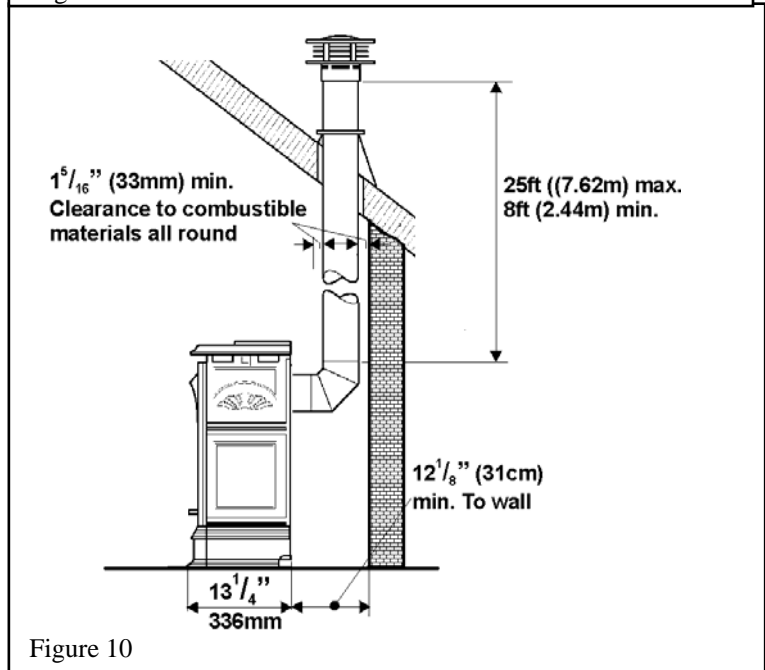

Figure 10
4.2.7. Rear vent connection, vertical vent rise with through the roof termination (Fig.10)